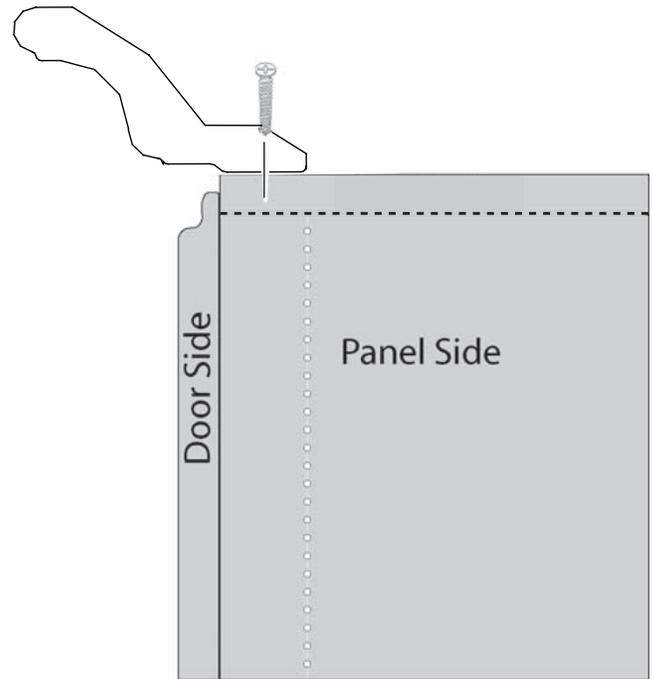

Fig. 11
11. Pre-drill each screw location to fasten molding to tower/shelving. Screw in the molding through predrilled holes in each corner and along the length where needed (approx. every 12”-14”), using #8 x 1-1/4” screw (Fig. 11).